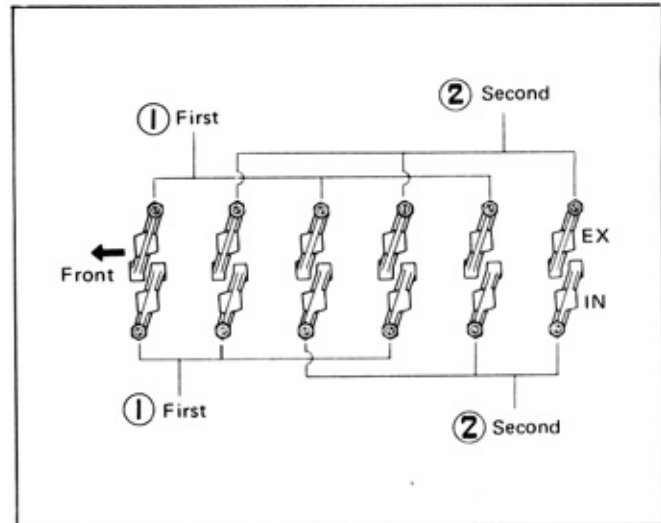

Fig. 18-22 Valve Clearance Adjustment order (4M)
- Check and adjust the valve clearances ① shown in Fig. 18-22.
- Then, turn the crankshaft one full rotation and check and adjust the valve clearances ② shown in Fig. 18-22.